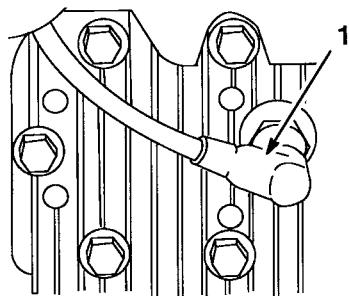

Figure 45
3. Remove spark plug (Fig. 45) and spin engine rapidly using starter to blow excess oil from the cylinder. Clean spark plug or replace if cracked, broken or electrodes are worn.
8. Reconnect spark plug wire (Fig. 45).